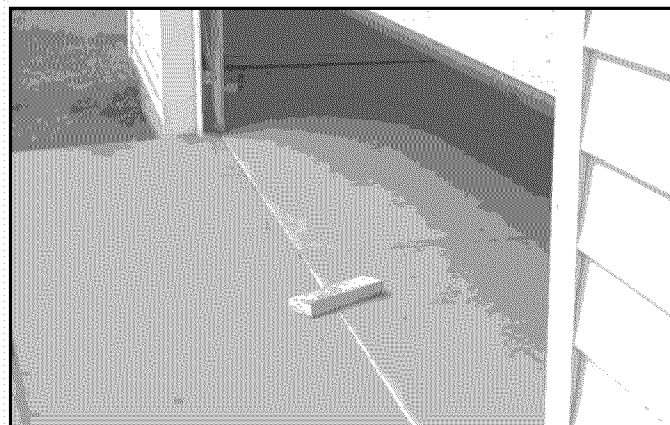

FIG. 6-6 2 x 4 under center of door opening.
- Place a 2" x 4" board (laid flat) under center of garage door opening (**Fig. 6-6**).